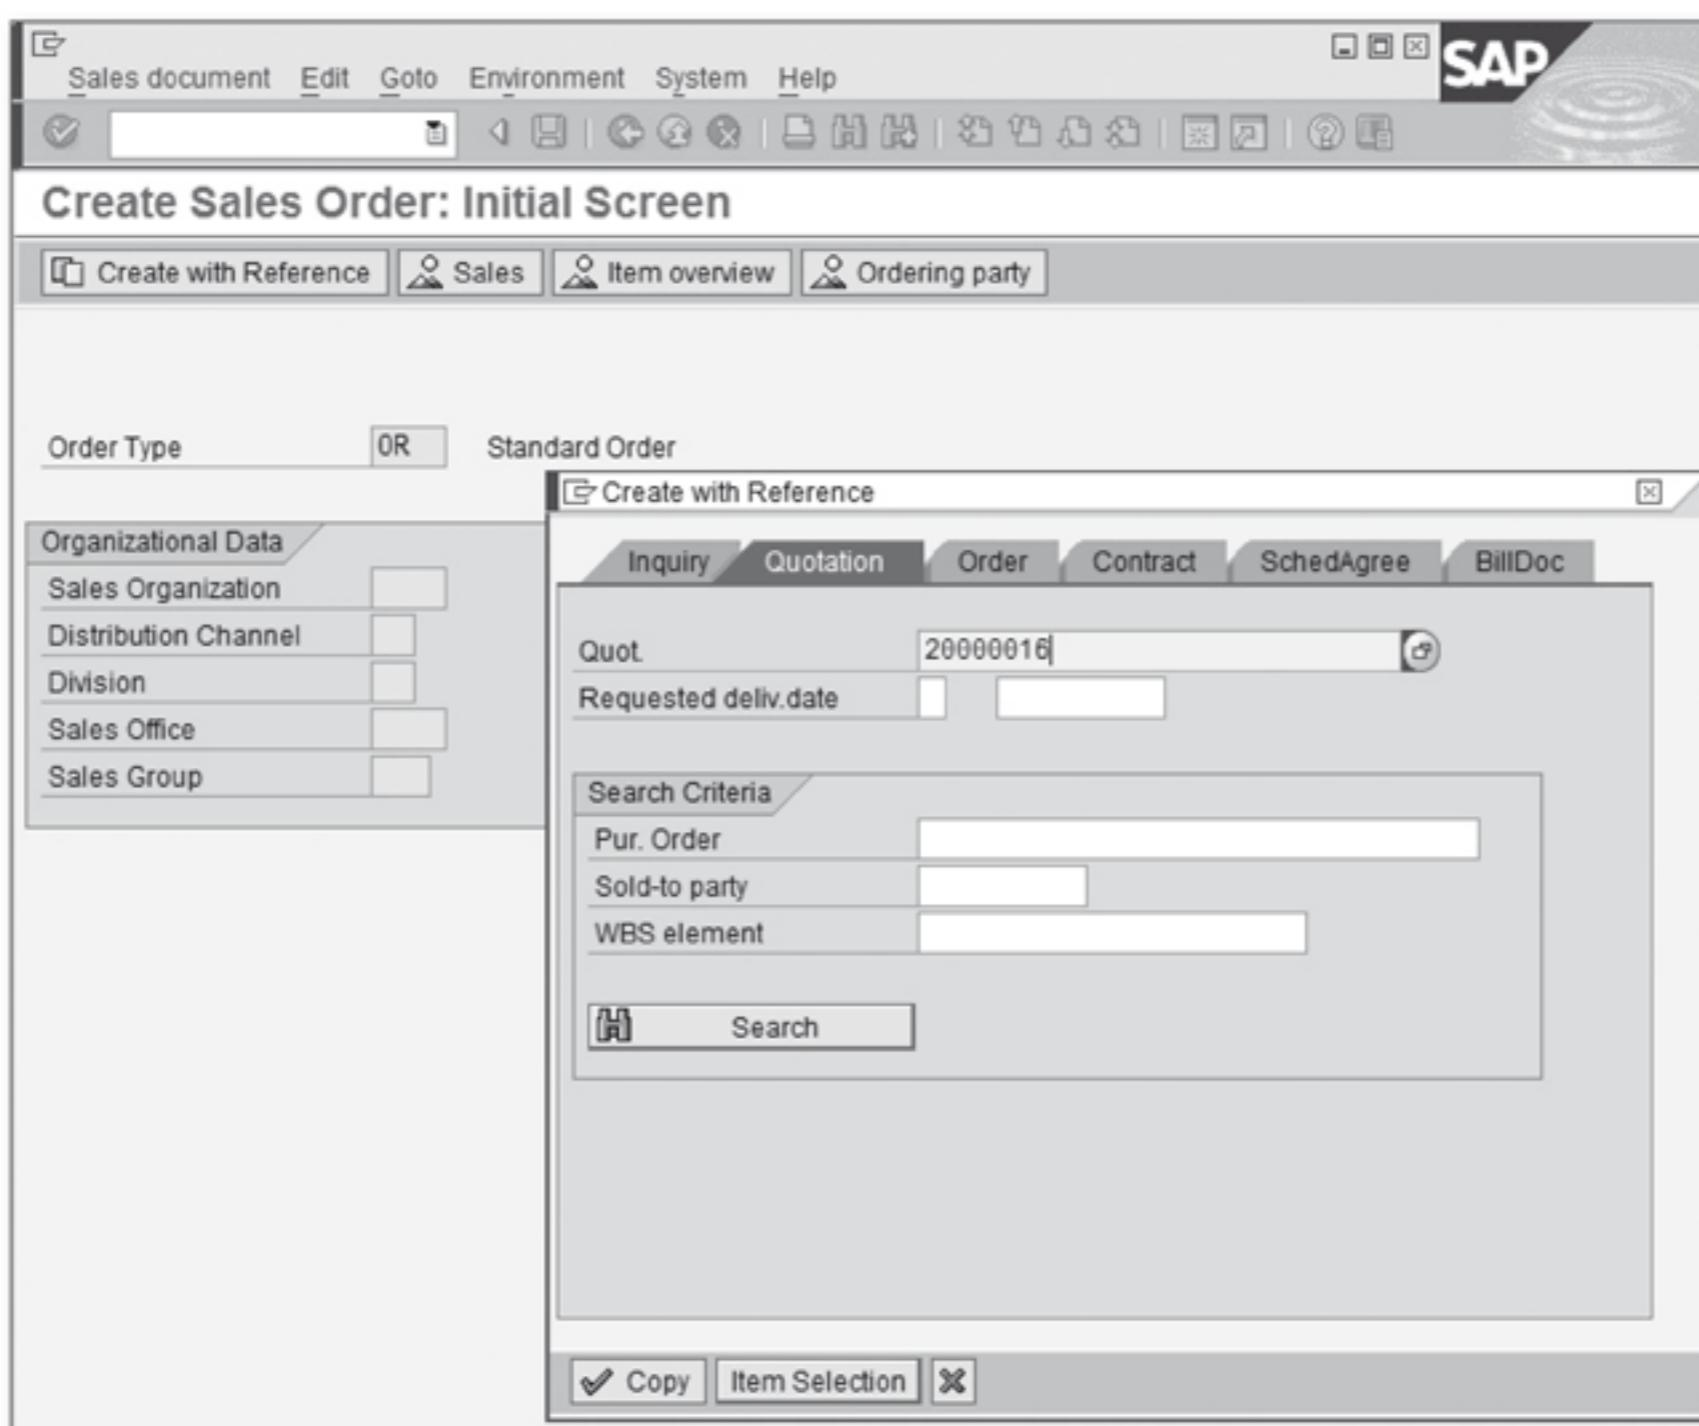

Figure 3.10 Create Sale Order with Reference Initial Screen
2. On the pop-up window, you have to specify the source quotation document number (see Figure 3.10). If you used alternative items, for example, in your source quotation, we suggest you click the Item Selection button to check which item(s) you'll be using in your sales order. If you don't plan on making any item selections, simply click the Copy button to continue.